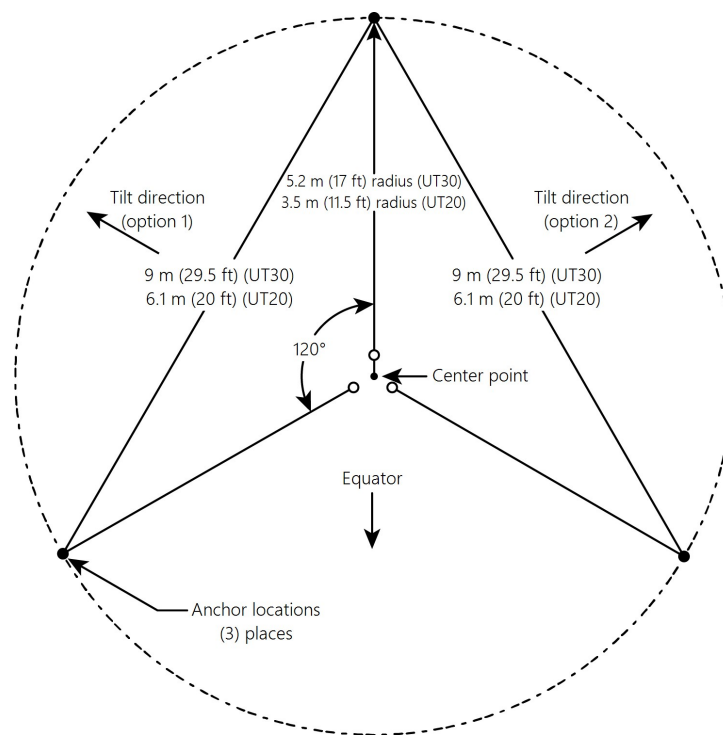
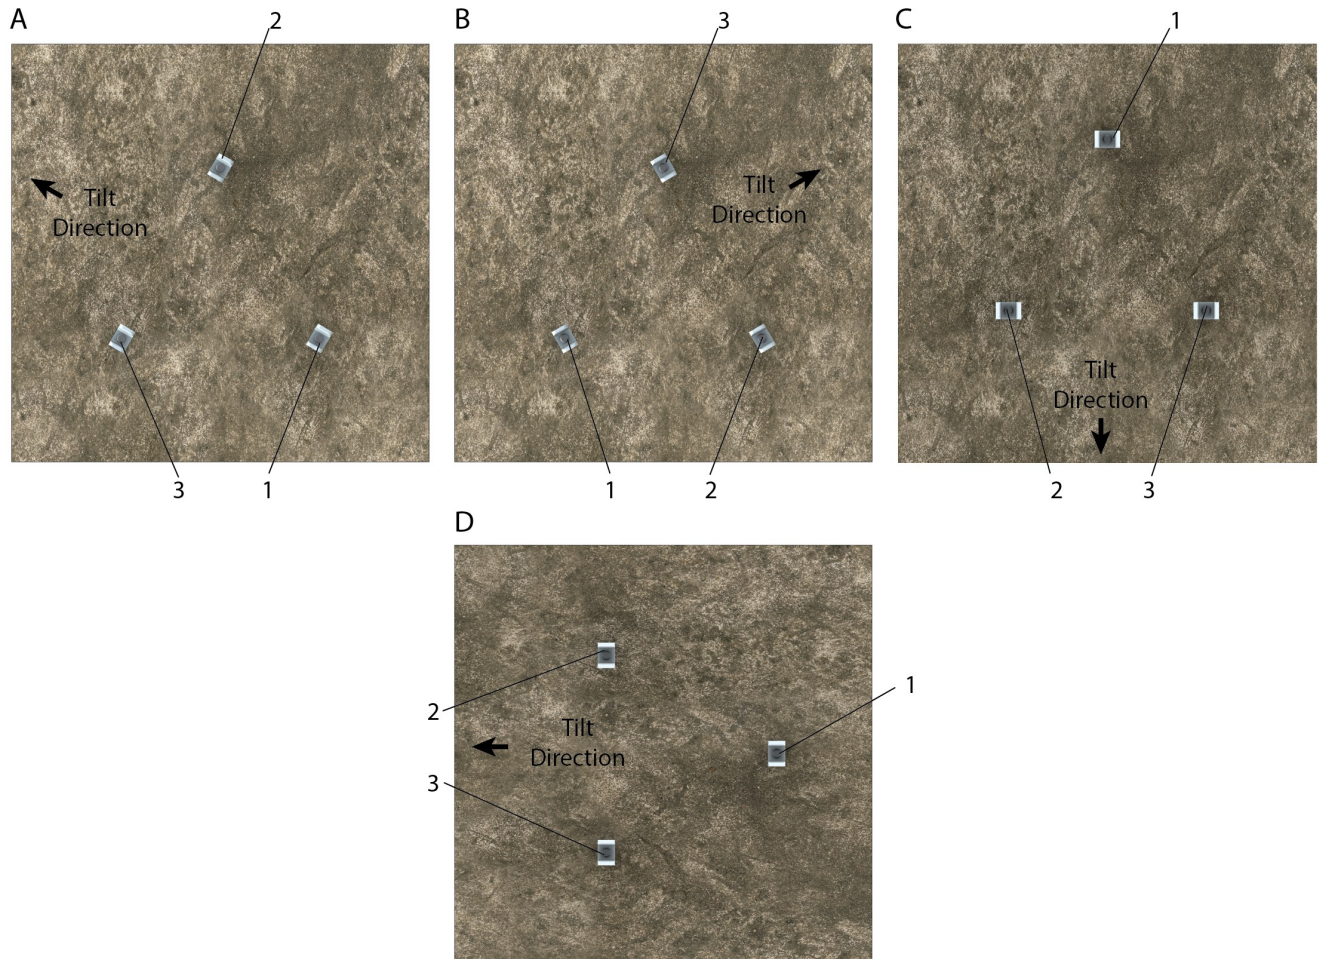
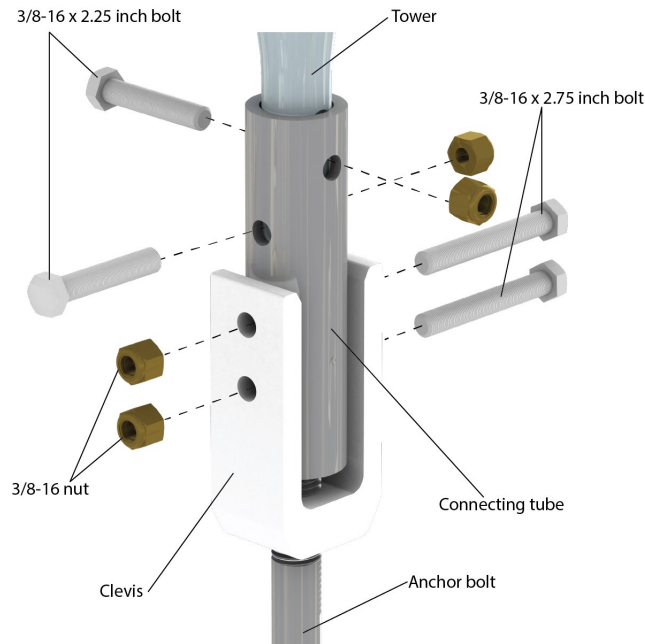

FIGURE 7-2. Guy anchor locations on level ground
FIGURE 7-10. Clevis angle for proper tilt direction
FIGURE 7-11. Tower clevis assembly
Drive a stake where the base of the tower will be located. Attach a line to the stake and scribe a circle with an 3.5 m (11.5 ft) radius for the UT20 or a 5.2 m (17 ft) radius for the UT30. The tower is typically positioned so two legs will be parallel to the equator as well as closest to the equator. The tower will then tilt away from the equator at an angle for servicing as shown by the two tilt direction options in FIGURE 7-2 (p. 10). See FIGURE 7-10 (p. 17) for other tilting options. Drive a stake on the scribed line opposite the direction the tower will hinge for the first guy anchor location.
When using a UT30 on level ground, lay out the remaining two anchor locations by measuring 9 m (29.5 ft) from the first anchor to the scribed line on either side of the base stake (FIGURE 7-2 (p. 10)). When using a UT20 on level ground, lay out the two remaining anchor locations 6.1 m (20 ft) from the first anchor to the scribed line on either side of the base stake.
FIGURE 7-10 (p. 17) shows four possible arrangements for the clevises. Images A and B show the recommended placement when a solar panel is to be mounted to the tower. This positioning allows a solar panel to be firmly attached to two tower legs while providing easy access to sensors at the top of the tower. Image C shows the clevises positioned to allow the tower to tilt toward the equator. Image D is used when it is necessary to mount a crossarm running perpendicular to the equator for precision pyranometer measurements.
8. Place a connecting tube inside each clevis and attach it with two 3/8-16 x 2.75-inch bolts and locknuts. Each connecting tube is unique and is numbered 1 to 3. Refer to FIGURE 7-10 (p. 17) for the position of each connecting tube in each tilt direction. Finger-tighten the nuts (FIGURE 7-11 (p. 18)).
9. With the help of a second person, lower the bottom section of the tower into the three connecting tubes. Secure the tower section to the tubes as shown in FIGURE 7-11 (p. 18).